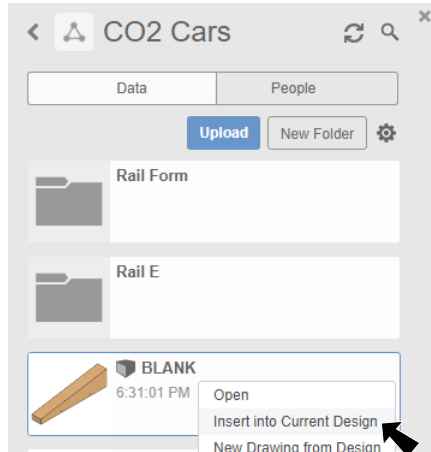

Fig. 1
Step 3. **Right click BLANK** file and click **Insert into Current Design**, Fig. 1.